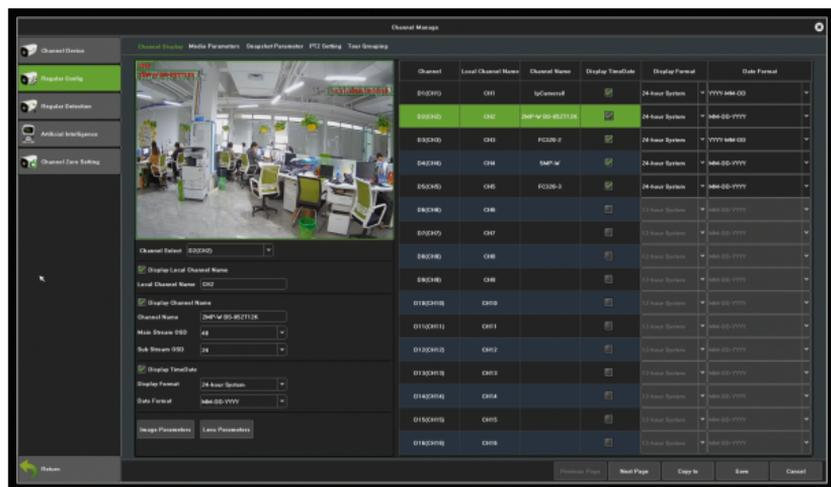

Figure 7.4 Interface of OSD Configuration
- Click on **Save**, the name input will be shown on the screen. You may to click and drag the text frame on the window with your mouse to adjust the OSD position, as shown in Figure 7.4.